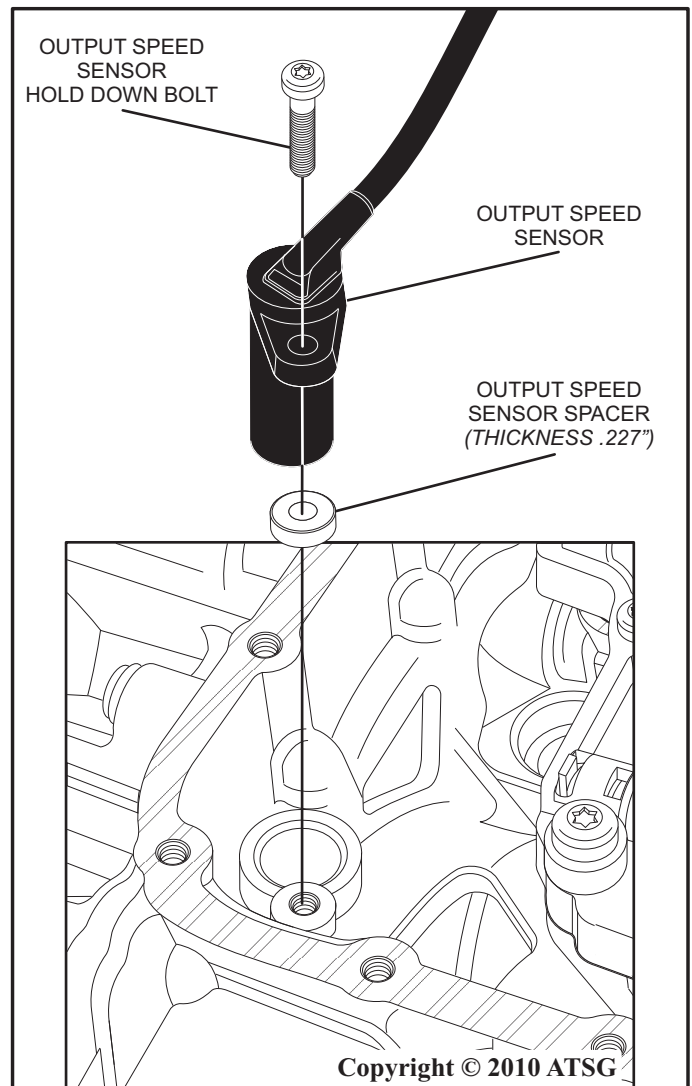

Figure 9
14. Remove the output speed sensor hold down bolt using a #27 Torx bit as shown in figure 9.
15. Remove the output speed sensor with a twisting motion lifting upward and remove the output speed sensor spacer as shown in figure 9.